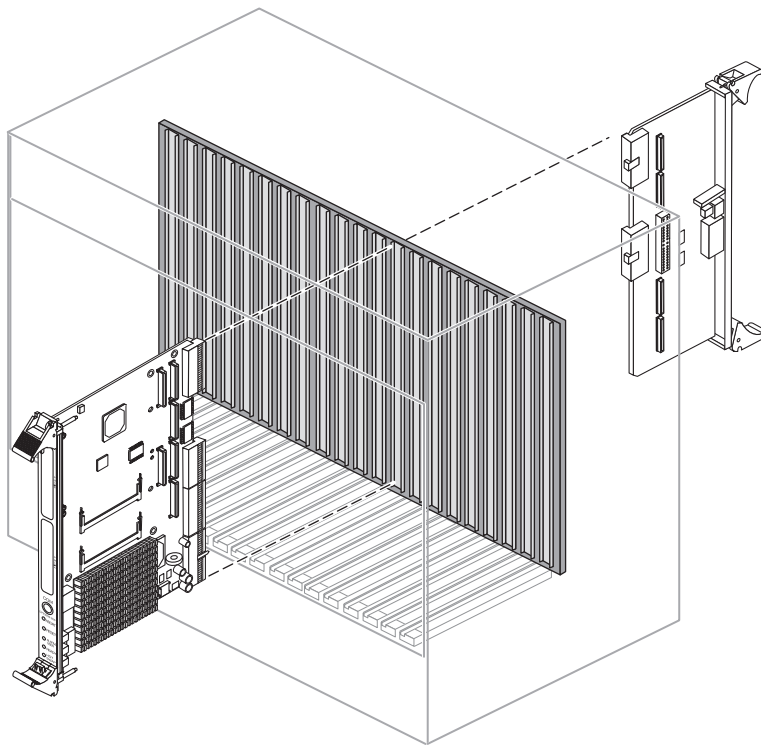

FIGURE 1-7 Installing the Netra CP2300 board and RTM in a cPSB Chassis
The Netra CP2300 transition card can be installed into a cPSB chassis with a backplane made for front and rear board installation (FIGURE 1-7). It must be installed in the slot directly behind the Netra CP2300 board for proper operation. These back-to-back slots have common pins to enable passing of signals.
- 4. Install the Netra CP2300 transition card into the chassis rear connector slot that lines up directly with the Netra CP2300 board (FIGURE 1-7).**
5. Install the Netra CP2300 board into the front of the chassis (FIGURE 1-7) and push the board towards the backplane to make sure it is seated properly and that the connectors make good contact with the Netra CP2300 transition card.